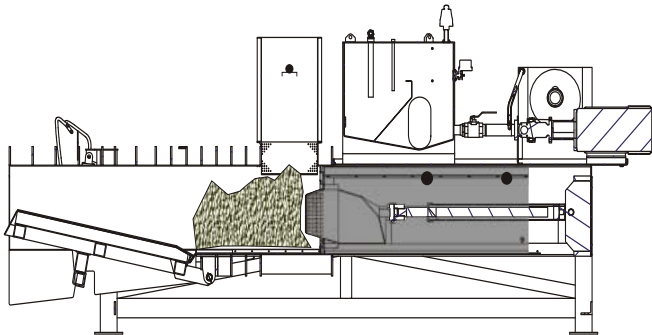

Figure 26 - Plunger Retracts, Product Falls Into Chamber
3. **PRODUCT FALLS INTO CHAMBER** Plunger retracted and the product falls into the chamber. PROX3 and PROX2 activated (see Figure 26 page 12).
3. **PRODUCT FALLS INTO CHAMBER** The plunger retracts and the product falls into the chamber. The plunger is fully retracted. PROX3 and PROX2 are activated (see Figure 26).